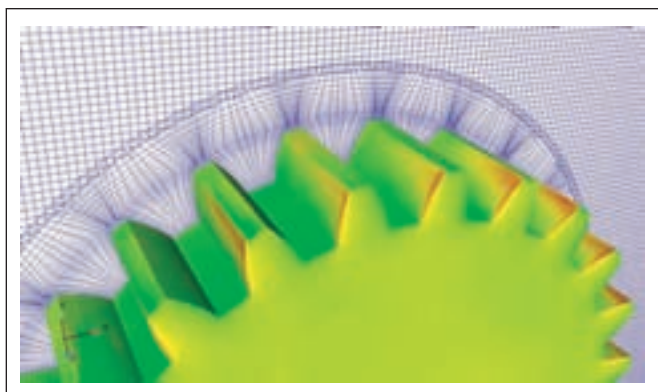

Figure 19—Verification study: 3-D overset grid solution and topology for Diab Gear 4.
**Overset grid simulations.** As of this writing, the overset capability for spinning gear simulations has been established in *NPHASE-PSU*. In this context, we are pursuing an overset verification effort and a relevant validation effort. The verification effort involves solving isolated spinning gear cases studied above using a rotating near-gear mesh and a stationary far-field mesh, the necessary approach to be used in ongoing gearbox windage activities. Figure 19 shows a view of an overset Diab Gear 4 simulation. Surface pressure contours are displayed, along with overset gear and background meshes on the symmetry plane. As expected, the CFD code returns nearly identical results for this moving grid overset simulation to the non-overset results reported above. We continue to parameterize gridding requirements in the overlap region, including the proximity of the overlap region to the gear in assessing the retained accuracy of the overset approach.